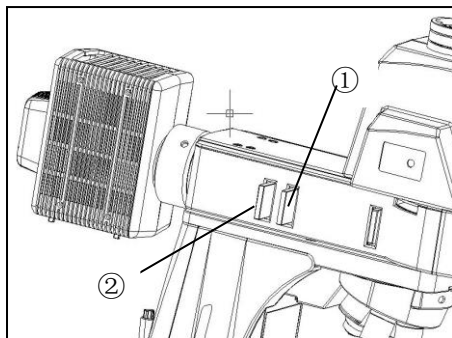

Fig 6
(fig.4, fig.6)
9. Adjust the mirror focusing knob ⑥ (Fig.6) to sharpen the mirror reflected arc image. (C)
10. Turn the burner adjusting knob ⑤ to overlap the are image with the mirror reflected are image. (D)
Centering the mirror reflected image (fig.6)
Knob control: (fig.6)